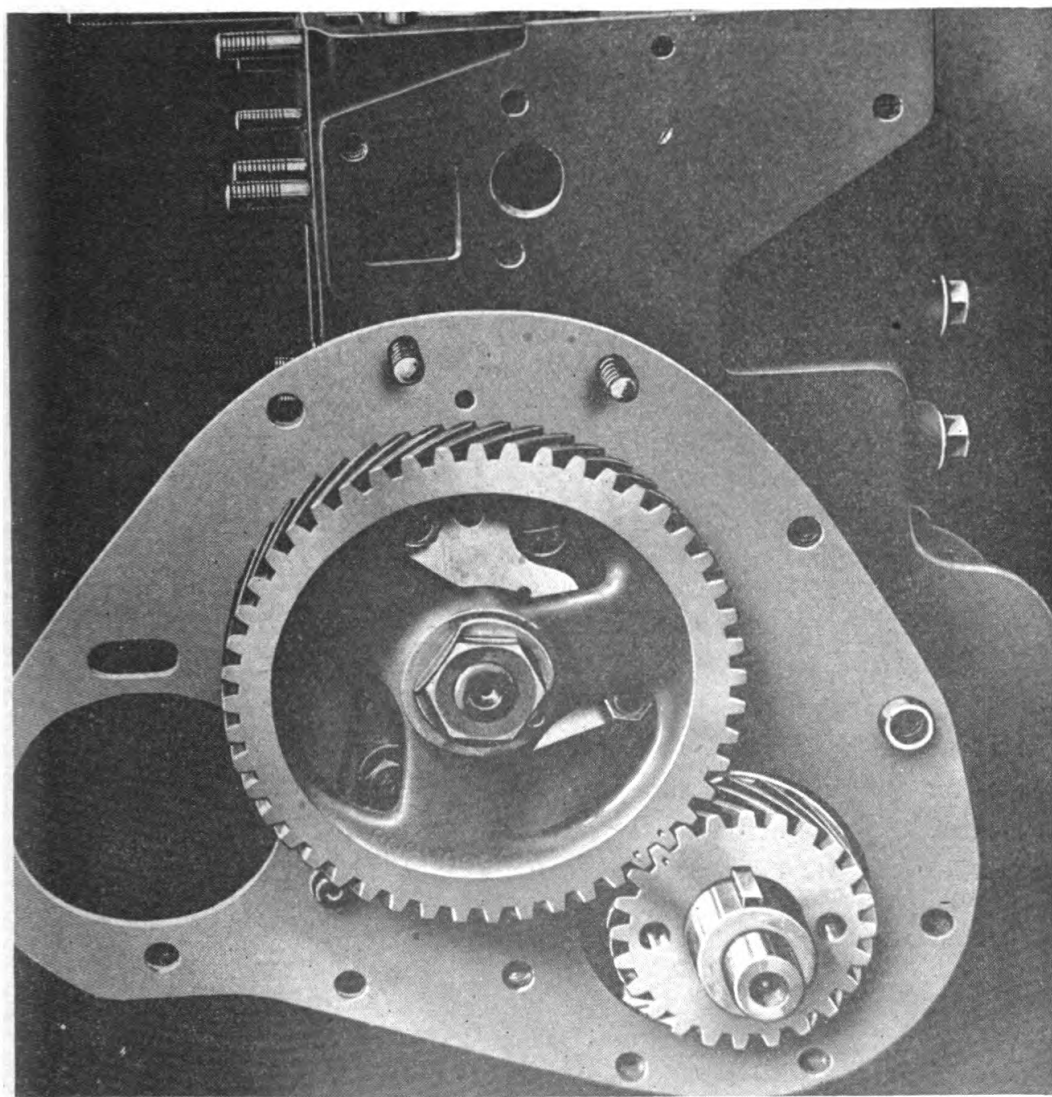

Figure 13. Camshaft gear and crankshaft gear.
a. **Crankshaft.** (1) The crankshaft in this engine is forged of high carbon steel. It is supported on four large main bearings $2\frac{3}{8}$ inches in diameter. The front bearing is $1\text{-}9/32$ inches long, the second and third bearings $1\frac{1}{2}$ inches long, and the rear bearing $1\text{-}47/64$ inches long. Being precisely balanced, it contributes materially to smooth flexible performance. When it becomes noticeably excessive, end play should be adjusted immediately to avoid damage to the thrust face on the rear of the front main bearing. The end thrust of the crankshaft is regulated by a removable thrust collar (together with a shim pack) located at the rear of the crank gear.
(2) The recommended crankshaft end play for this engine is 0.004 inch to 0.006 inch. When servicing a crankshaft or any parts in connection with the shaft, especially rod and main bearing shells, always make sure that all oil holes in the shaft are open and clean.
b. **Front End Drive (fig. 13).** Front end drive is accomplished by three gears, consisting of crank, cam, and governor gears. Gears are of the helical type with $\frac{3}{4}$ -inch wide faces. The gear train is all metallic. Generally, if one gear is defective in an all metallic train, all the gears in that train must be replaced at one time. When two gears are to be replaced, new gears of exactly the same size should be used unless at some previous time changes, which would affect gear centers, such as replacement of bushings, have been made. When a single gear is replaced, it should be slightly larger to compensate for the slight wear on the teeth of the other gears.
b. Installation and Adjustment of New Belt. (1) Place the belt over the fan and on the fan pulley.
(2) Place the belt around the crankshaft pulley.
(3) Place the fan belt over the generator pulley.
(4) Tighten the fan belt by moving the generator away from the cylinder block.
(5) Tighten the setscrew in the generator adjusting arm to hold the proper tension on the fan belt.
(6) Replace the fan guards.
47. TIMING OF CRANKSHAFT AND CAMSHAFT GEARS (fig. 13).
The camshaft gear is center-punched at the bottom of two teeth. The crankshaft gear is center-punched at the bottom of one tooth. Before removing the gears, align the camshaft gear with the crankshaft gear as shown in figure 13. After repairs are made, realign crankshaft and camshaft with punch marks at the identical position.